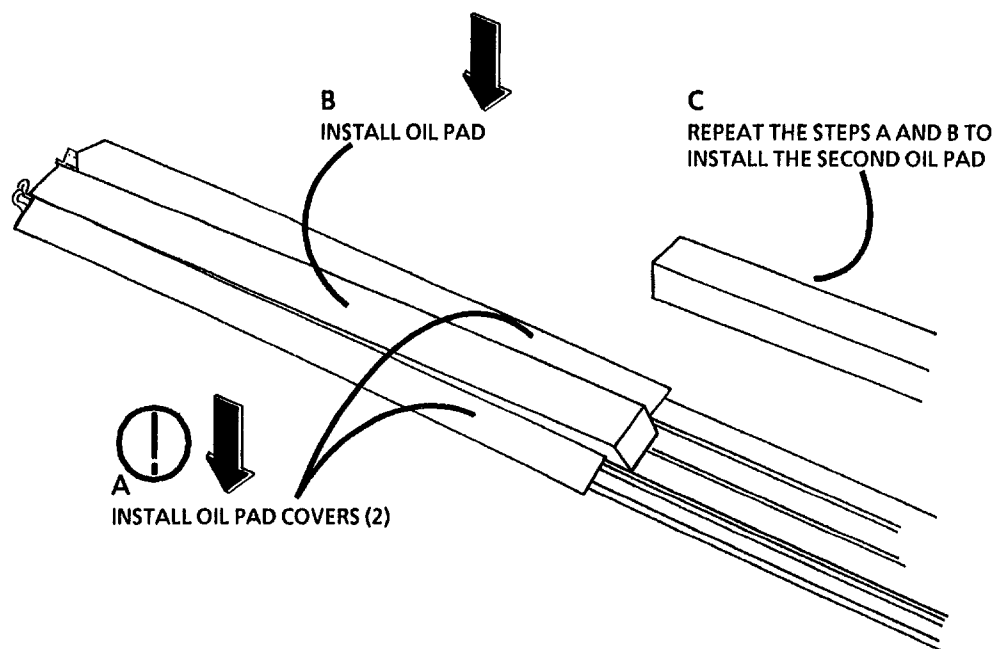

Figure 2. Install the Oil Pads
1. (Figure 2): Install the Oil Pads.